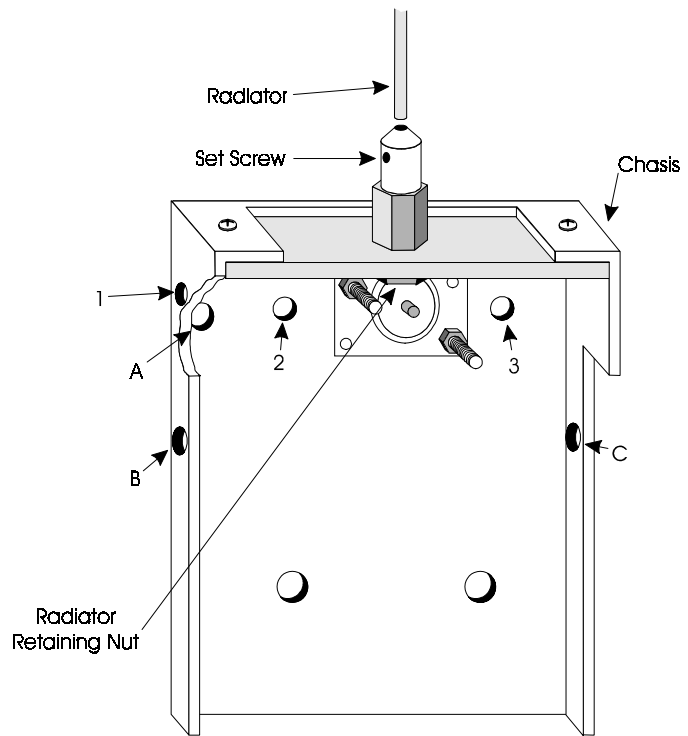

Figure 1
- 1- Insert a 6-32 x 1/2" screws through hole #1 with thread toward the inside of the chassis. Start a 3/8" nut on the tip of this screw (*see Figure 1*).
Adjustment on this antenna is done by losing the set screw (*see figure 1*) and increase or decrease the length of the radiator element to lower or increase the frequency respectively.